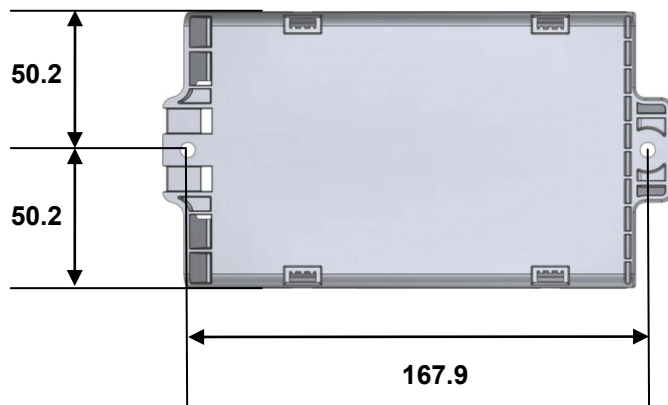
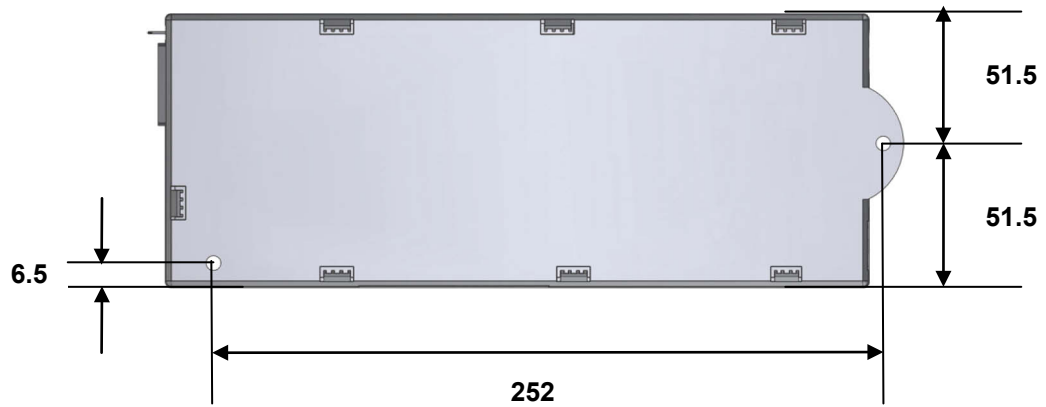

Figure 34 Mounting dimensions: SMART control unit (in mm)
Figure 36 Mounting dimensions: COMPACT control unit (in mm)
- 1 Mark the drill holes. The positions of the holes are shown in Figure 34 (SMART) or Figure 36 (COMPACT).